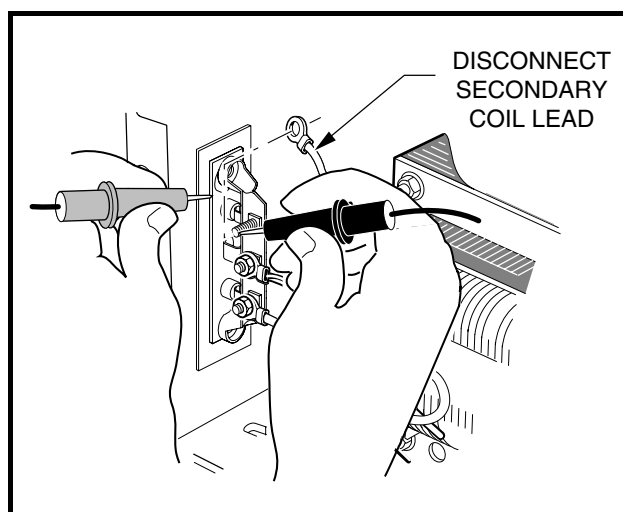

Figure 14-12 Diode Test
2. Disconnect one transformer secondary coil lead from the diode terminal (**Figure 14-12, Page 14-15**).